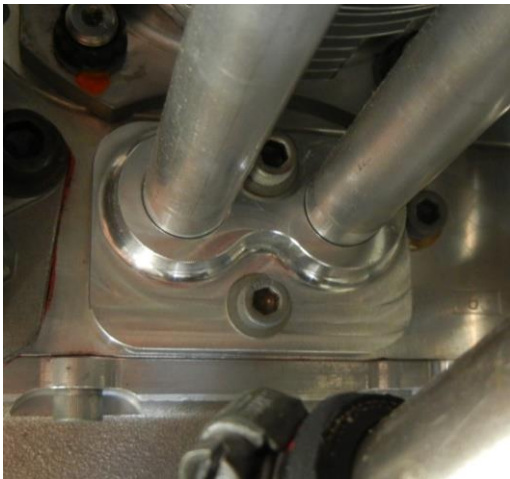
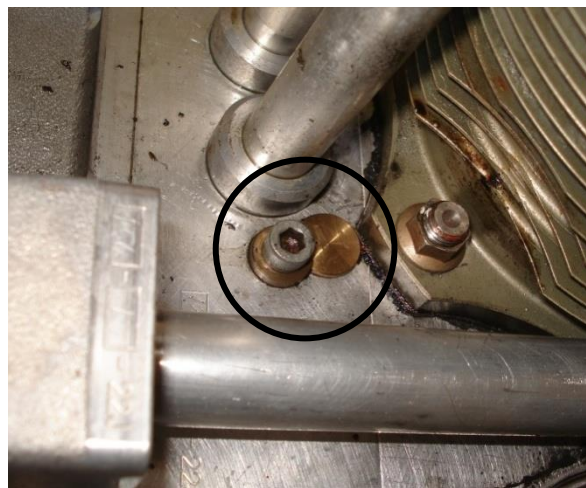

Figure 188 – Oil Return Manifold Fitted
Figure 193 – Rocker Lube (Left) & Crankcase Oil Port Blanking Plug
6. For roller follower models, the oil return manifolds can be fitted now. Fit new O rings and use a small amount of Loctite 515 to seal the manifold to the engine. Figure 188 shows the manifolds installed.
7. Fit the pushrod tubes (2) to the crankcase.
8. If the engine uses an external oil feed pipe this must be fitted between the cylinders. It should be fitted but the clamps not tightened until all the heads are fitted. For later specification engines which use the pushrod tubes to feed oil to the rocker gear this step is omitted. Note that if an engine has been converted from the external oil feed to the new hollow pushrod oil feed it will be necessary to fit blanking plugs to the old oil feed holes in the sides of the crankcase as shown in Figure 193. Solid lifter engines must use the external oil feed tube system.